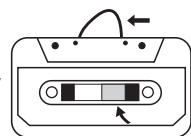

Fig.1
- Check that there are no loose layers of tape visible through the cassette centre window (see Fig. 1). Take up any loose layers, using a pencil or hexagonally barrelled ballpoint pen, before inserting the cassette into the machine (see Fig. 2).